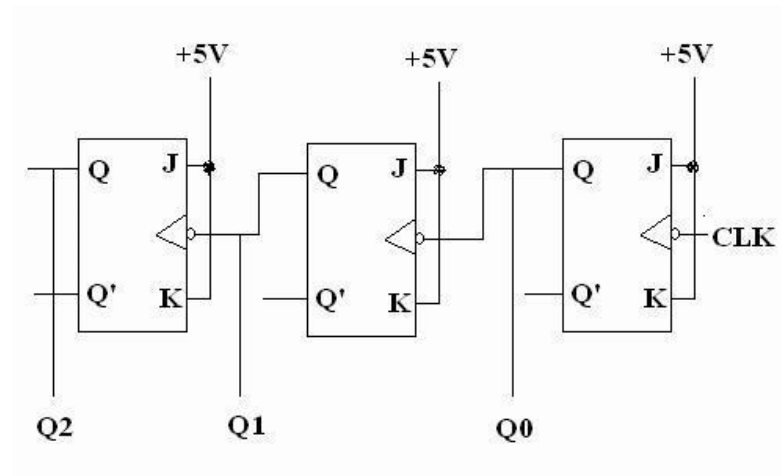

Figure 5.18: 3-bit Ripple Counter.
1. Use the KL-33009 module to implement the 3-bit (divide by eight) Ripple counter shown in Figure 5.18.